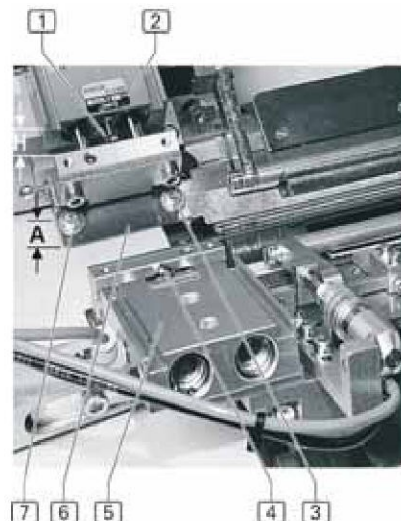

fig. 21
- 1 **fig. 21:** Move the clamp to the loading position, switch off the machine and disconnect the pressure cylinders **2** and **5** from the pressure source.